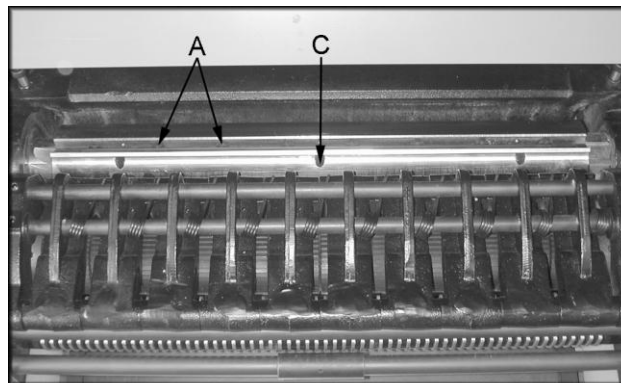
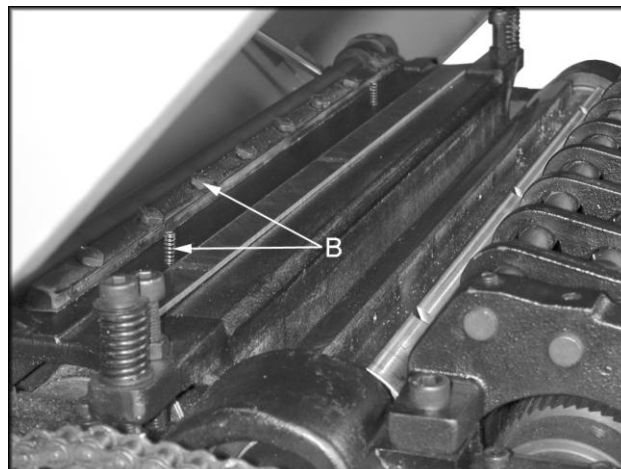

Figure 8
Figure 9
2. Open the hood, loosen eight locking bolts (A, Figure 8) on the clamping block and remove the knife. Remove and clean the clamping block, and springs (B, Figure 9). Also clean cutterhead knife slot before re-installing the sharpened, or new knife.
3. Re-install the springs, knife and clamping block, and just snug the eight locking bolts (A, Figure 8). **Note:** You should still be able to raise and lower the knife.
4. Notice that the knife does not rest at the bottom of the knife slot. Instead, the knife rests on three jack screws (C, Figure 8), and two springs. These jack screws are used to support and raise the knife.